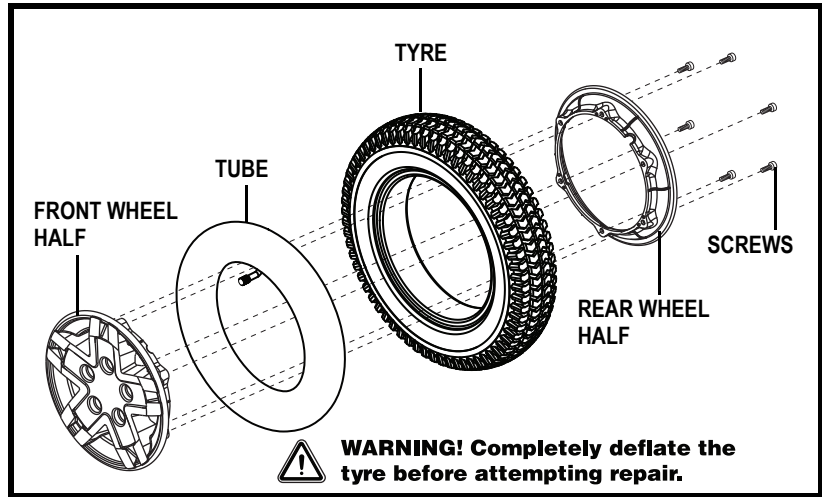

Figure 25. Q6 Edge Drive Wheel Disassembled
6. Remove the screws and separate the front and rear wheel. See **figure 25**.
10. Reinstall the five (5) lug nuts onto the wheel hub and tighten.